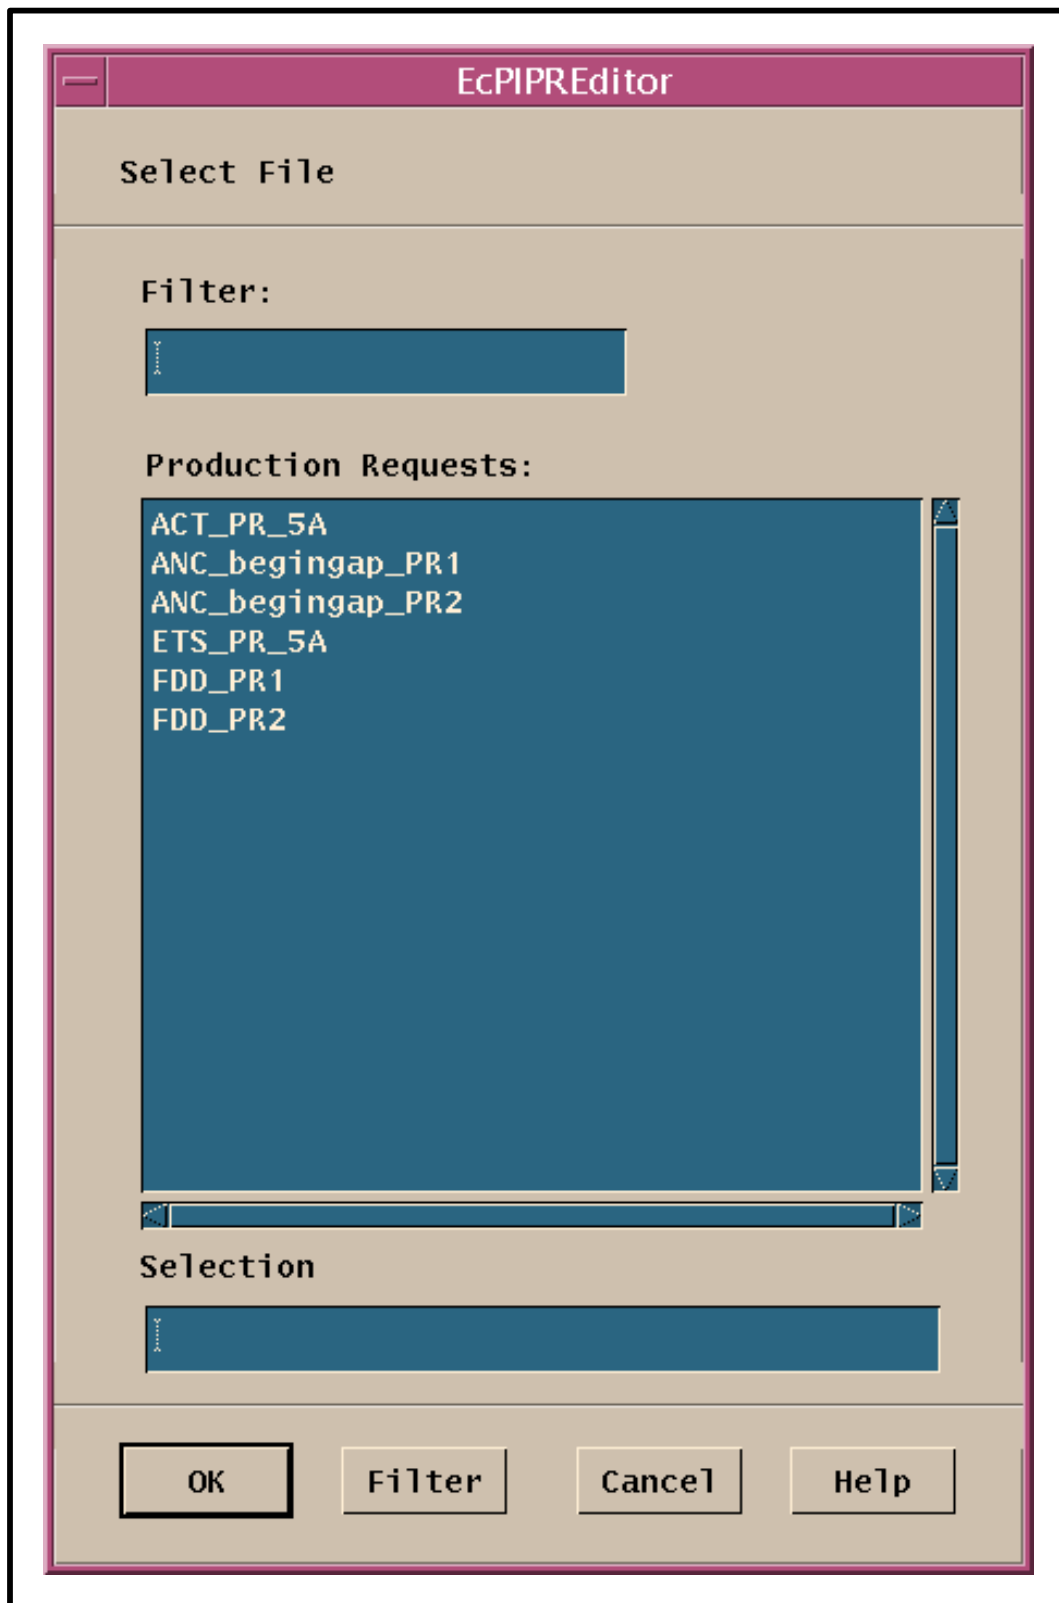

Figure 22. Production Request Editor File Selection Window
- The **File Selection** window (Figure 22) is displayed.